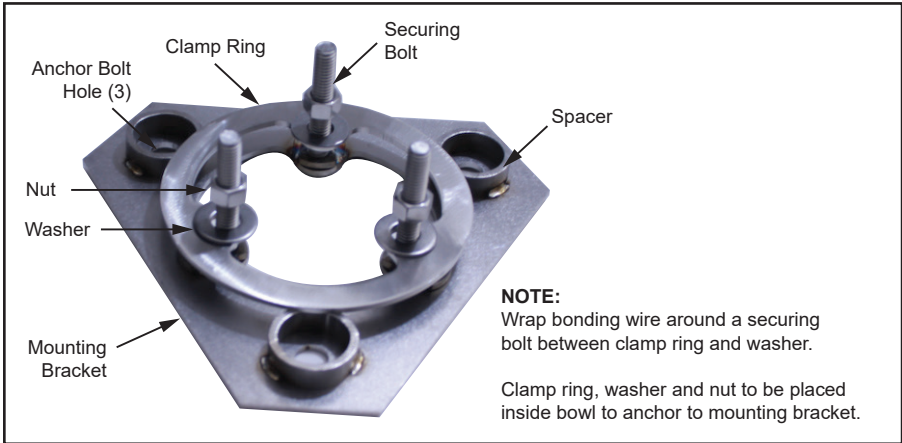

Figure 1. Mounting Bracket Components for Securing and Bonding of Bowl
2. Wrap with copper bonding wire around a securing bolt between the clamp ring and washer. See Figure 1 for mounting bracket components.